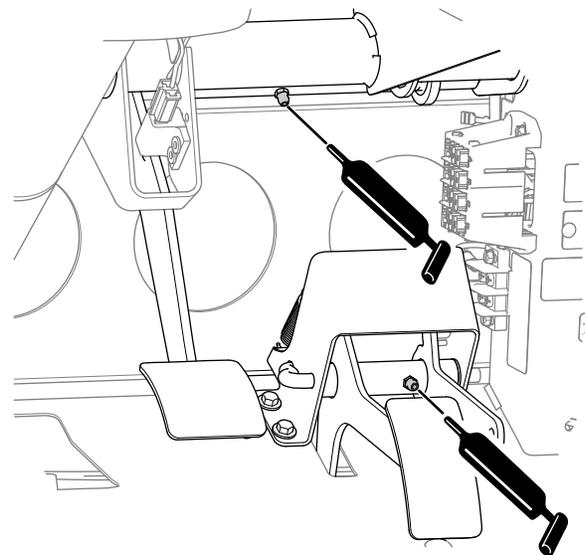

Figure 50
- **Brake** (1); refer to Figure 50
- **Throttle** (1); refer to Figure 50